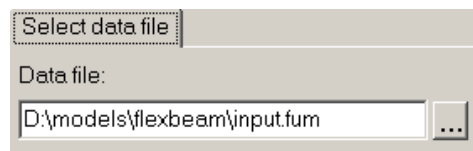
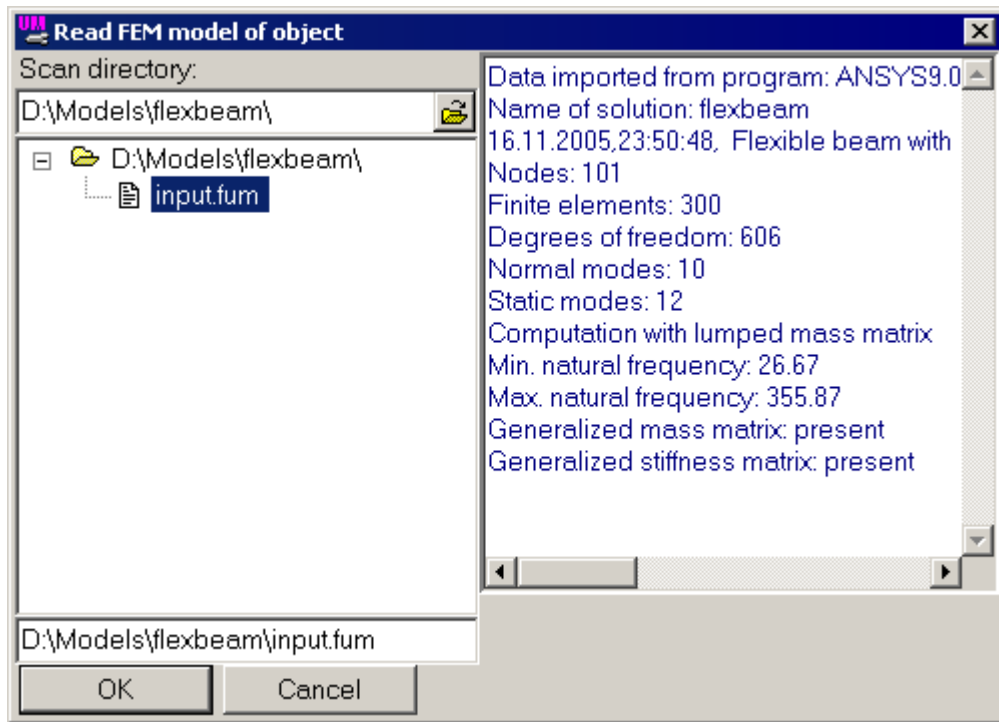

Figure 1.4.
Figure 1.5.
3. Click the **...** and select a file for the **Data file**, Figure 1.4, Figure 1.5.